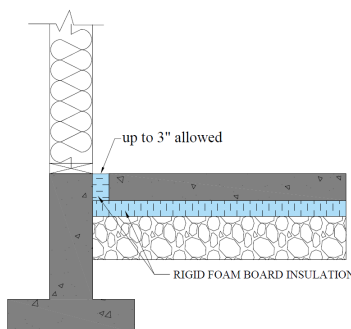
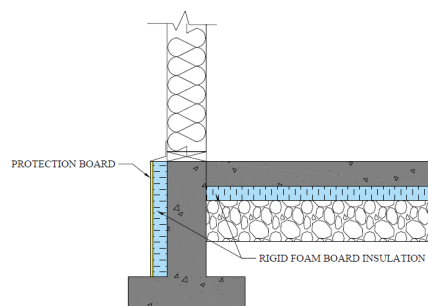

Figure 1
Figure 2
1. The rigid foam board insulation **up to 3"** thickness can be installed either on the interior side of the foundation wall (*Figure 1*) or to the exterior side of the foundation wall (*Figure 2*).
- To the exterior side of the foundation wall (*Figure 2*); or